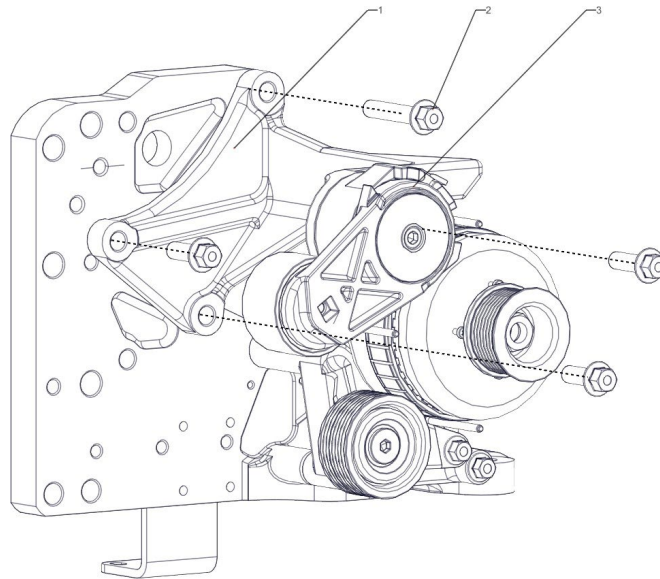

Figure 14. Left-Hand Automatic Belt Tensioner Assembly
1. Remove bolts (Figure 14, item 2) from the left-hand automatic belt tensioner bracket (Figure 14, item 1).
2. Remove the left-hand automatic belt tensioner (Figure 14, item 3).
3. Remove the Left-hand automatic belt tensioner bracket (Figure 14, item 1).
2. Insert and torque the bolts (Figure 14, item 2) onto the left-hand automatic belt tensioner bracket.
3. Place the left-hand automatic belt tensioner (Figure 14, item 3) onto the bracket (Figure 14, item 1).
4. Insert and torque down the bolt going into the automatic belt tensioner (Figure 14, item 3).